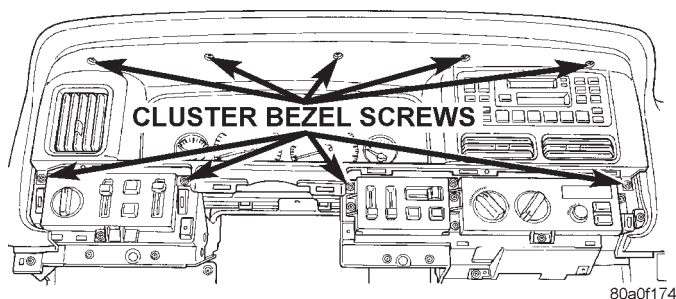

Fig. 2 Cluster Bezel Screws Remove/Install
- (1) Disconnect and isolate the battery negative cable.
- (2) Using a trim stick or other suitable wide flat-bladed tool, pry gently around the edges of the switch pod bezels and remove both bezels.
- (3) Remove the nine screws securing the cluster bezel to the instrument panel (Fig. 2).